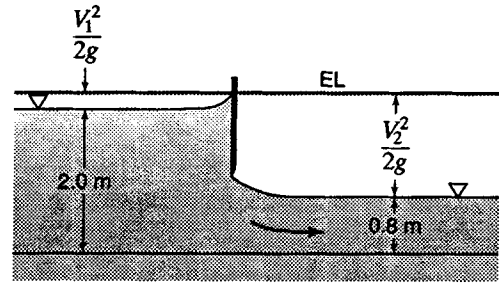

Figure S5.12
5.14.2 Refer to Fig. S5.12. If the depths upstream and downstream of the gate were 1.5 m and 0.6 m respectively, find the flow rate per meter of channel width. Assume no head loss.